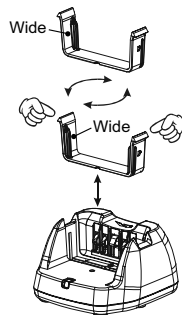

FIGURE 1
- ❑ Referring to Figure 1, adjust the direction of the Battery Holder of the **CD-49** Desktop Charger in accordance with the battery pack being charged; Push in both sides of the Battery Holder while pulling up on the Battery Holder to remove it from the charger base, select the correct direction of the Battery Holder for the battery being charged, then